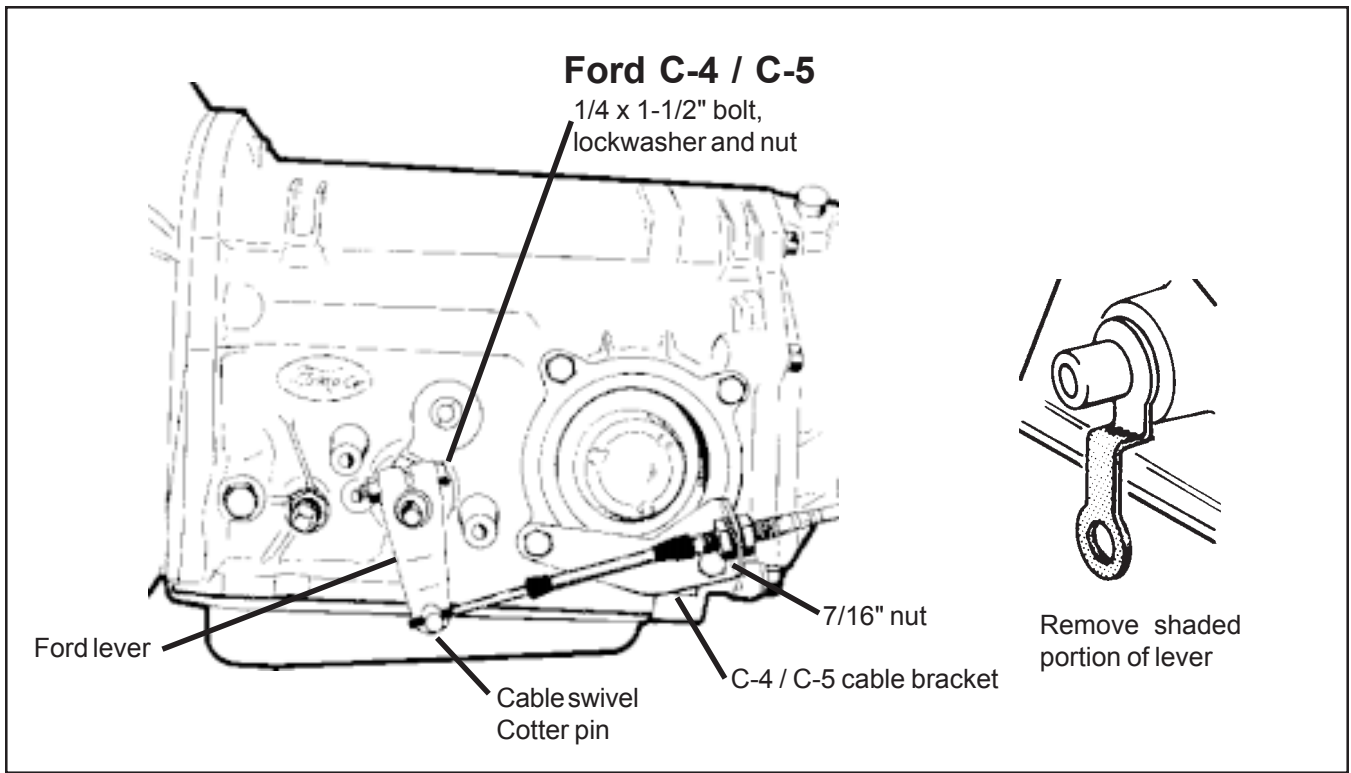
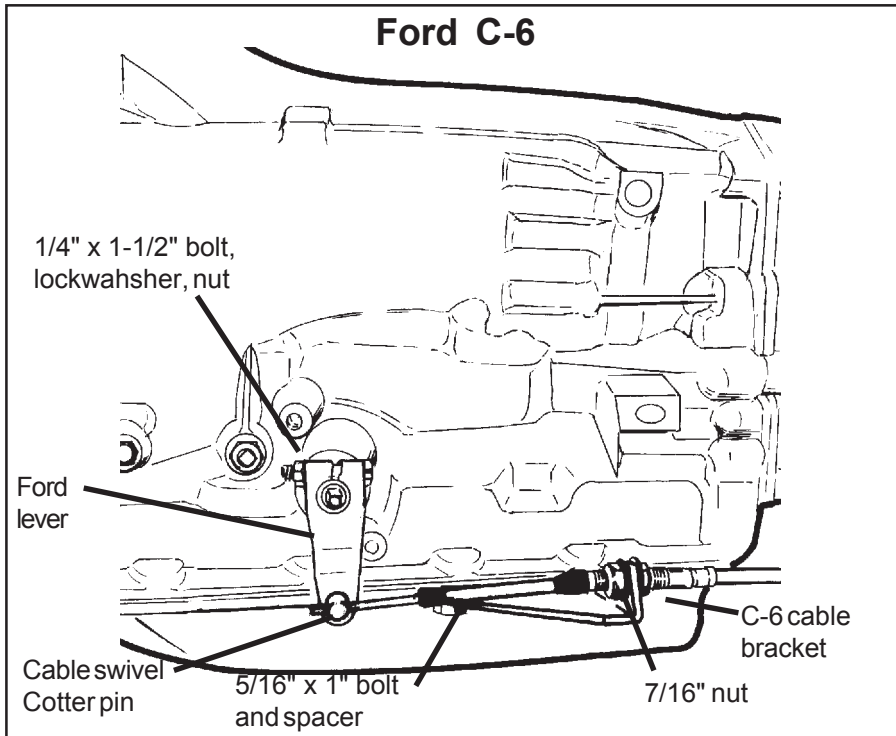

Figure 6
Figure 7
**STEP 3.** Install the **B&M** selector lever, (**See figure 6 or 7**). Note: The B&M lever must point downward for proper operation. If the stock shift lever on your transmission points down, you will have to remove the lower part of the stock arm by cutting it off to clear the **B&M** lever, (**See figure 6 or 7**). Install **B&M** selector lever onto shift shaft of transmission. Align selector lever so when it points straight down it travels equal arcs in both directions from center, then tighten 1/4"-20 x 1 1/2" pinch bolt and nut. The lever should travel smoothly from front to back with a positive click in each gear position. Make sure O-ring is in position on downshift shaft and install downshift lever in position on shaft. Install lockwasher and nut and tighten
**STEP 4.** C-4/C-5 Cable bracket installation: Remove the two lower bolts from the rear servo cover. Install cable bracket in position, (See figure 6). Install two servo cover bolts as removed and tighten 12-13 lb-ft. Do not over tighten as this can distort servo cover. C-6 Cable bracket installation: Remove the two transmission oil pan bolts from the left rear corner of the oil pan. Install the cable bracket in position (See Figure 7) with two spacers between the pan and the bracket. (If your transmission is equipped with a cast aluminum oil pan, these spacers can be omitted.) Install the two 5/16-18 x 1.00" bolts supplied and tighten to 12-13 lb-ft. Do not overtighten as this can damage the pan gasket.